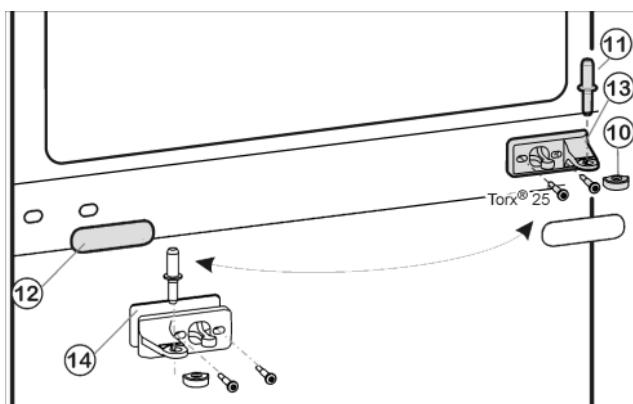
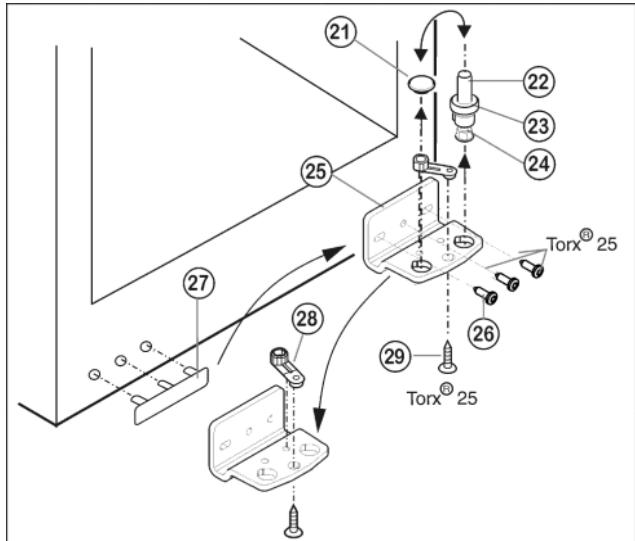

Fig. 5
Fig. 6
- ▶ Draw the middle bearing pin Fig. 5 (11) out of the turn hinge and lower door.
- ▶ Remove the plastic cap Fig. 5 (10).
- ▶ Unscrew the middle turn hinge (2x Torx® 25). Fig. 5 (13).
- ▶ Carefully detach the cover panel Fig. 5 (12).
- ▶ Turn the middle turn hinge Fig. 5 (13) with the washer Fig. 5 (14) through 180° and screw it firmly into place on the new hinge side (**with 4 Nm**).
- ▶ Turn the cover panel Fig. 5 (12) through 180° and snap it into place again on the new handle side.
- ▶ Lift out the bearing pin Fig. 6 (22) together with washer Fig. 6 (23) and foot Fig. 6 (24).
- ▶ Lift off the stopper Fig. 6 (21).
- ▶ Unscrew Fig. 6 (26) the turn hinge Fig. 6 (25).
- ▶ Unscrew Fig. 6 (29) the bearing element Fig. 6 (28), transfer it to the opposite location hole of the turn hinge and screw it firmly into place.
- ▶ Carefully lift off the cover on the handle side Fig. 6 (27) and transfer it to the opposite side.
- ▶ Screw the turn hinge Fig. 6 (25) firmly into place on the new hinge side, possibly using a cordless screwdriver (**with 4 Nm**).
- ▶ Re-insert the stopper Fig. 6 (21) into the other hole.
- ▶ Re-insert the bearing pin Fig. 6 (22) together with washer and foot. In so doing, pay attention that the locating lug points backwards
- ▶ Place the lower door from above onto the lower bearing pin Fig. 6 (22).
- ▶ Place the plastic cap Fig. 5 (10) back onto the middle turn hinge Fig. 5 (13).
- ▶ Place the middle bearing pin Fig. 5 (11) in the lower door, on the new hinge side, through the middle turn hinge Fig. 5 (13).
- ▶ Place the upper door on the middle bearing pin Fig. 5 (11).
- ▶ If necessary, align the doors to the appliance housing by way of the two oblong holes in the bottom turn hinge Fig. 6 (25) and middle turn hinge Fig. 5 (13). To do so, unscrew the middle screw in the bottom turn hinge Fig. 6 (25).